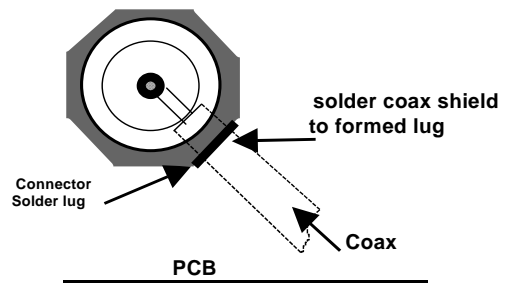
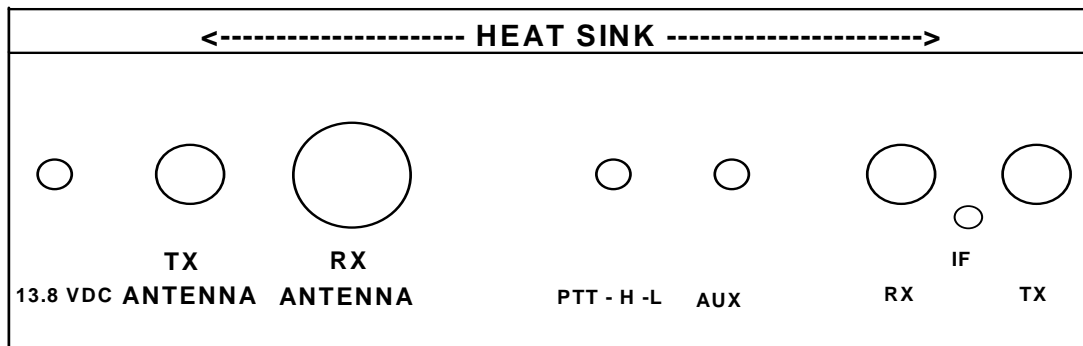

Figure 3B Inside View
Figure 4 Jack Mounting Positions Outside View
Install the Type "N" or UHF and hardware in the RX antennae position (figure 4) as shown in figure 3A. Then tighten with ground lug in the position as shown in figure 3B.
When complete, proceed to install the rest of the rear wall mounted connectors per Figure 4. Install two BNC connectors at the RXIF and TXIF positions using the supplied 3/8" nuts. If washers are supplied, install them on the inside of the enclosure. If you have difficulty tightening the connector, connect an adapter or cable connector and hold this while tightening to keep it from spinning. Install one BNC connector at the TX Antenna position following figure 3A and 3B. Bend the lug away from the wall to form a right angle. Install three RCA connectors for auxiliary, PTT
At this point, some of the flying wires will need to be connected in the enclosure to allow preliminary electrical testing. Depending on the keying circuitry required by your IF transceiver, connect the #26 Teflon from either the TTL or PTT point on the board to the RCA jack mounted and labeled PTT- H -L in the enclosure. Solder it after connecting a 1000 pF capacitor to the center pin and ground lug (See Figure 4 for jack location). Then connect and solder a 1000 pF from the center pin and ground lug of the AUX jack.
Connect and solder the flying lead from the +13.8V to the middle terminal on the wall mounted switch and solder. Connect the #26 Teflon wire from +13.8SW to the terminal on the wall mounted switch that is the closest one to the top opening of the enclosure. Then strip and tin a 2-1/2" #16 Teflon wire (Blue) and surface mount solder it to the +13.8V pad on the PCB. Then, solder it to the center lug of the 13.8VDC connector in the enclosure(see figure 4)
relay to the solder lug on the wall mounted 'N' connector. Push the center conductor through the hole in the solder lug and allow the shield to penetrate the hole (See figure 3B). Solder the shield to the solder lug, then solder the center conductor to the 'N' connector center pin.
14. Attach the supplied jack / switch labels to the enclosure by first cleaning the mounting surface with a multi-purpose household surface cleaner. Use figure 4 and 5 for placement location.